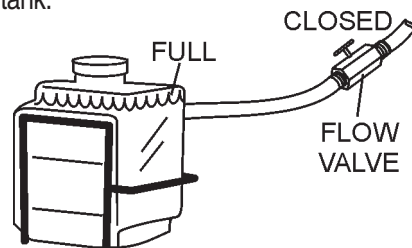

Figure 33. Piston Oiler Tank
1. Fill the piston oiler tank (Figure 33) to the "**FULL**" level for normal operating conditions. Check regularly. Fill with SAE 30 wt. type motor oil. The oiler tank capacity is 1.5 quarts (1.14 liters). Turn flow valve to the **CLOSED** position when filling oiler tank.